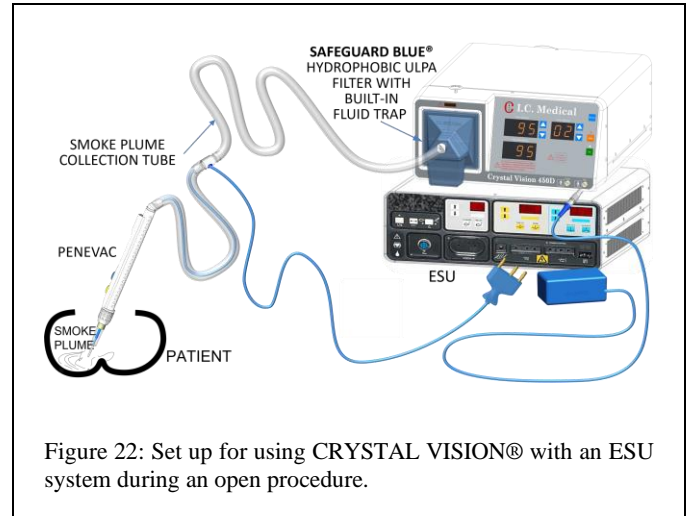

Figure 22: Set up for using **CRYSTAL VISION®** with an ESU system during an open procedure.
3. Refer to Figure 22 or 23 for set-up.